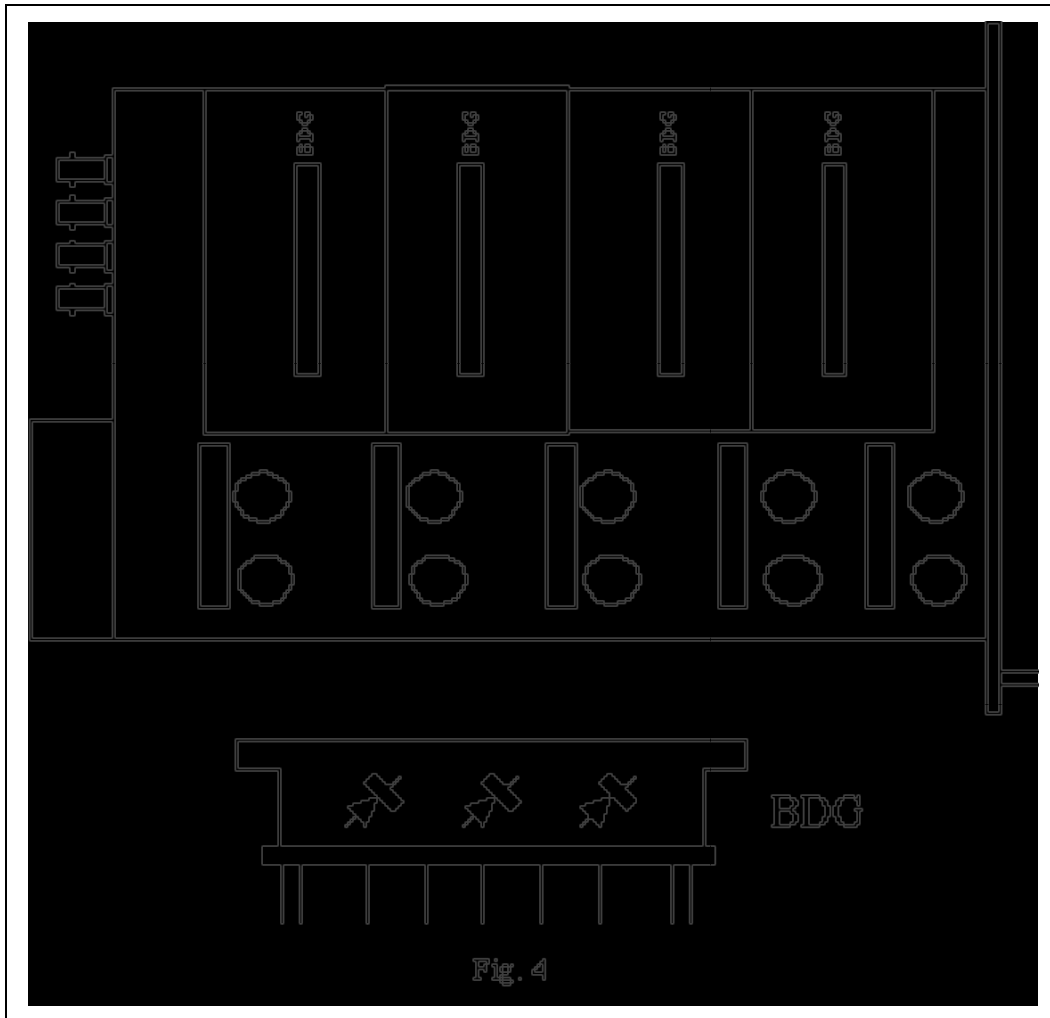

Fig. 4
The four multipliers will appear as shown in figure 4 with the channel 0 multiplier on the right. All the HV components are encapsulated in a silicon black rubber and only the DIODE BRIDGE labelled BDG in figure 4 is accessible to the user.
4. If the polarity of one or more channels must be changed, extract the module Bdg from its contacts and insert it in the opposite position according to the figure 4.